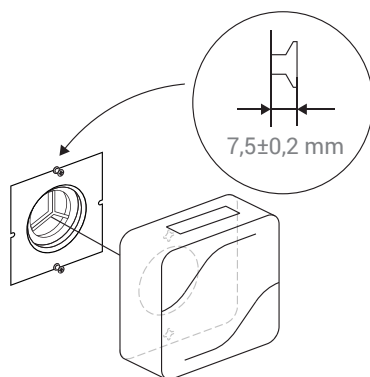

Figure 6.8. Device hanging
- Make sure that the distance by which the wall anchors heads protrude out of the wall is in accordance with the dimensions shown in Figure 6.8. Lay the power cord on the appropriate side along the cable channels on the rear part of the device. Hang the device onto wall anchors using the mounting lugs on the rear panel of the device.